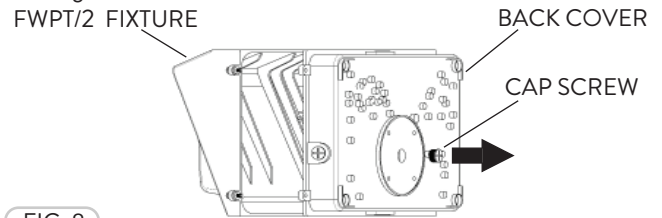

FIG. 8
- 2 Remove the Cap Screw from the Back Cover of the FWPT/2 fixture (Fig. 8).